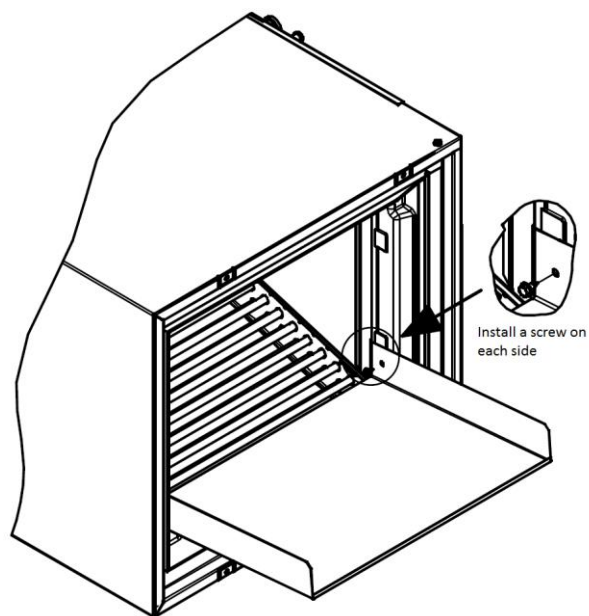

Figure 2
2. Horizontal Right Installation (figure below) is included to show the extension pan installed using the included self-tapping screws. See Figure 2.